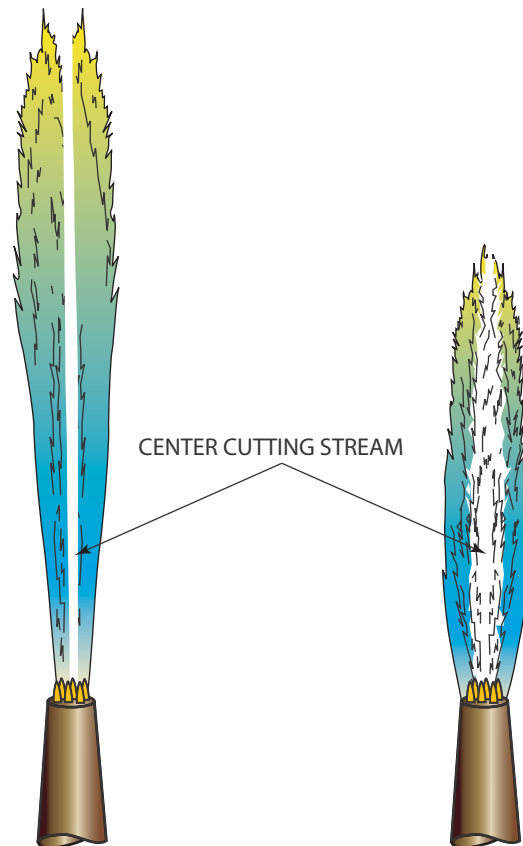

FIGURE 21-23 A clean cutting tip will have a long, well-defined oxygen stream. © Cengage Learning 2012
7. Increase the pressure slowly and readjust the flame as you watch the length of the clear cutting stream in the center of the flame, Figure 21-23. The center stream will stay fairly long until a pressure is reached that causes turbulence, disrupting the cutting stream. This turbulence will cause the flame to shorten in length considerably, Figure 21-23.